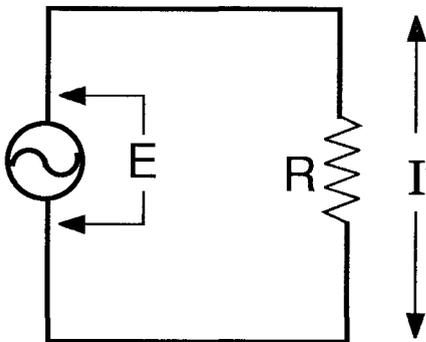

Figure 12-2. A simple AC circuit
For example, in Figure 12-2 an AC voltage  $E_{\text{RMS}}$  from source S is applied across load impedance Z. Current I flows through the load. Note that the direction of current flow alternates with the voltage: this is an alternating current (AC) circuit. Suppose that we know E to be 1 volt RMS, and Z to be 100 ohms. As above, we can easily find
Since we chose the same voltage and impedance values in Figure 12-2, this calculation also describes that circuit. Since the circuit of Figure 12-2 is an AC circuit and the voltage is given as 1 volt RMS, we call the P term the average power. (The misnomer RMS power is sometimes used, indicating that the power was calculated from the RMS voltage or from the RMS current. Since voltage and current are out-of-phase in an AC circuit, simple multiplication of RMS voltage times RMS current does not yield RMS power.)